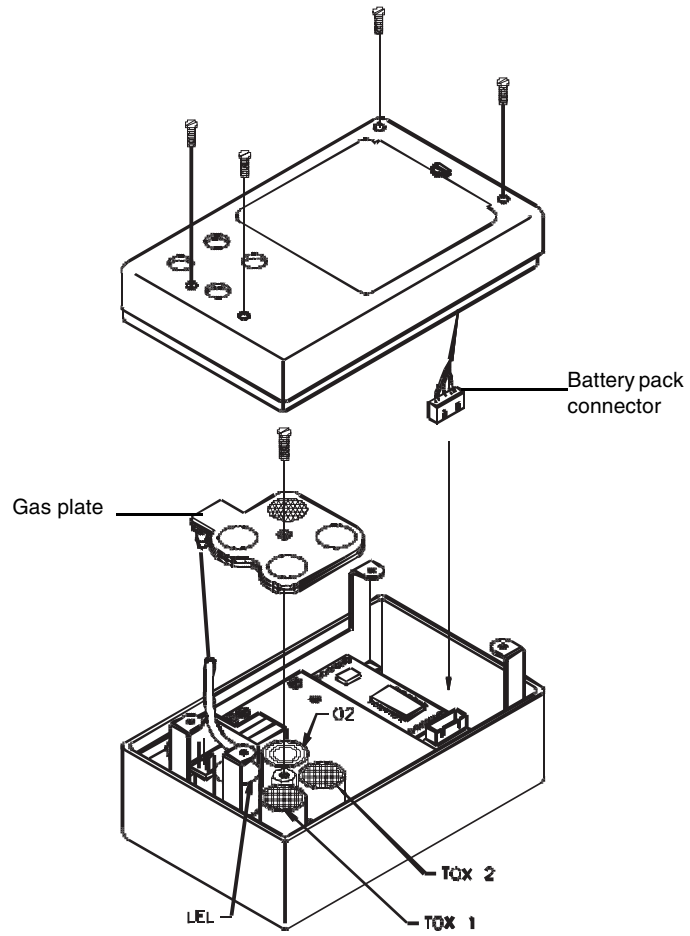

Figure 17 Sensor Replacement
- Turn off the instrument and remove the 4 screws (See **Figure 17**) securing the top half of the case.
- Remove the single screw securing the gas plate (See **Figure 17**).